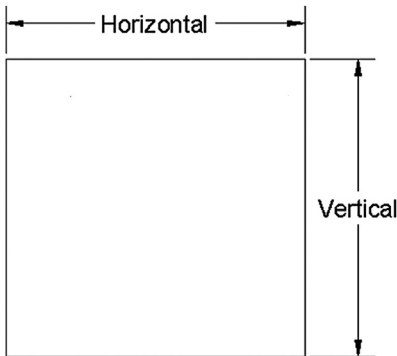

FIGURE 6.2
These are any dimensions that are strictly horizontal or vertical (Figure 6.2). We go over only the horizontal dimension, as reflected in the matrix that follows. Of course, the same steps apply to the vertical dimension and you should practice it on your own.
- Step 1.** Create a small to medium-size rectangle or square, as seen in Figure 6.2, and begin the linear dimension command via any of the preceding methods.